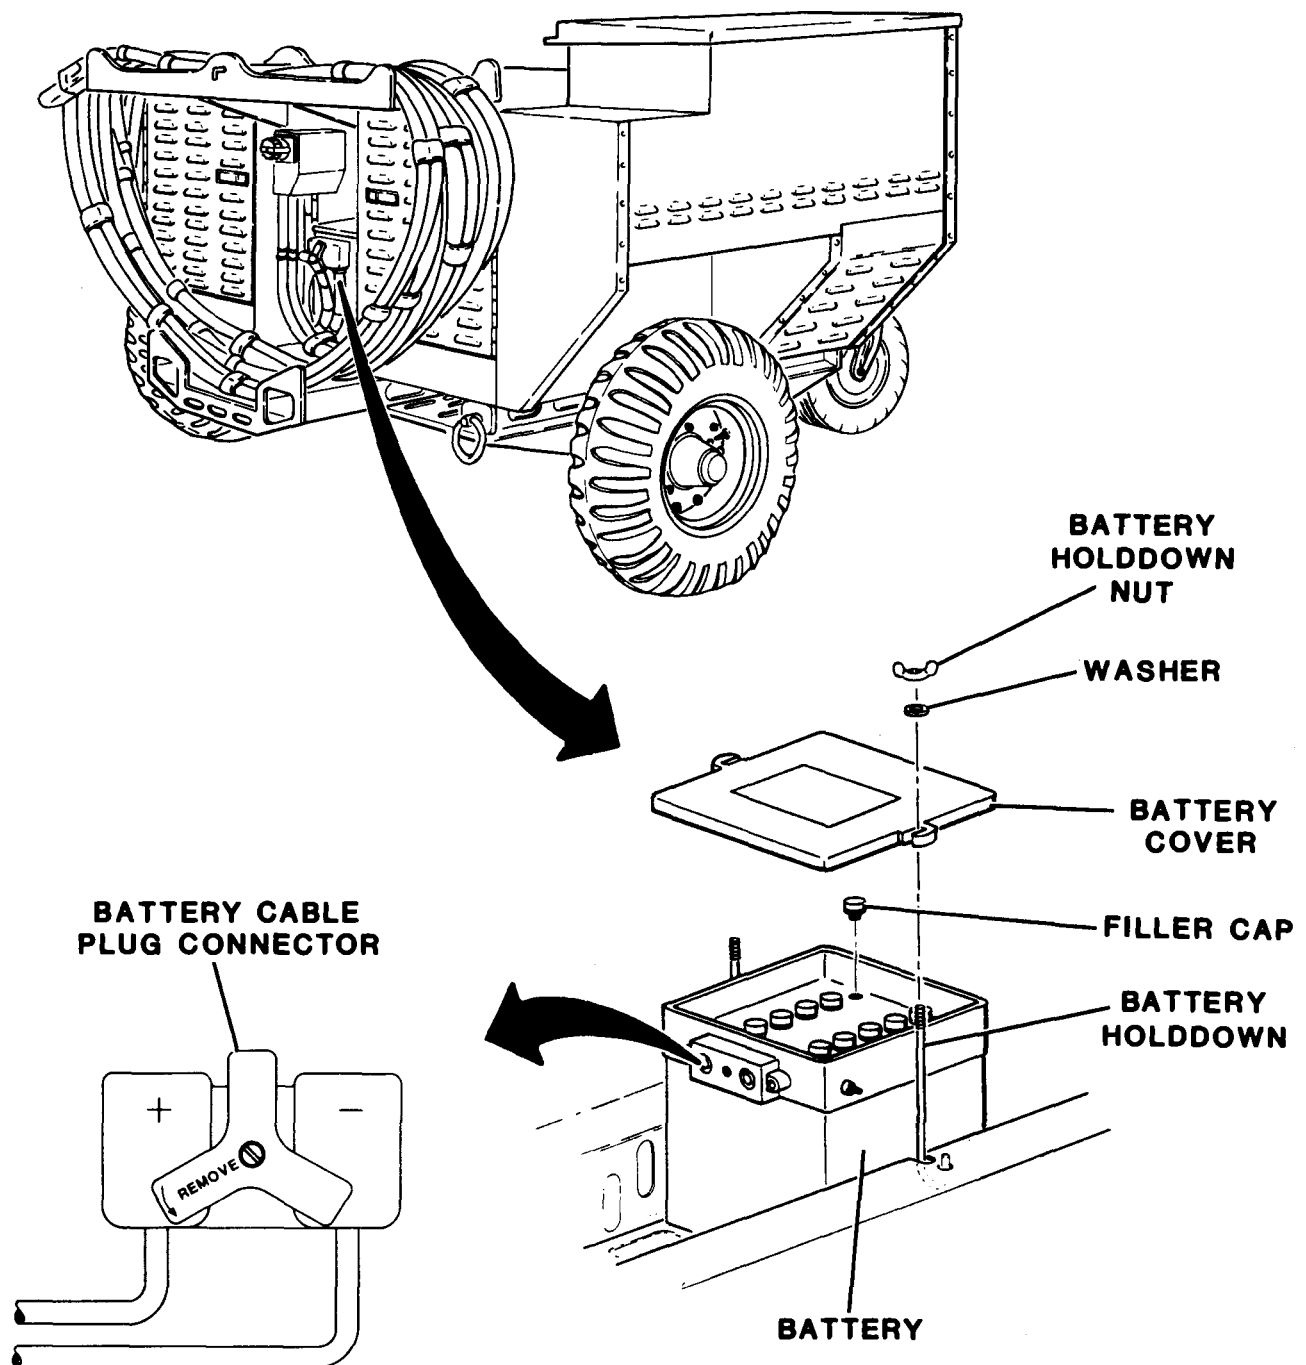

Figure 4-1. Battery Service
(2) Service of the fuel system consists of inspection of system components, fuel lines, and fittings. Refer to paragraph 3-9. If damage is found, refer to Maintenance Allocation Chart (MAC) to determine level at which repairs are to be accomplished.
(3) Service the battery (figure 4-1) in accordance with the following procedure.